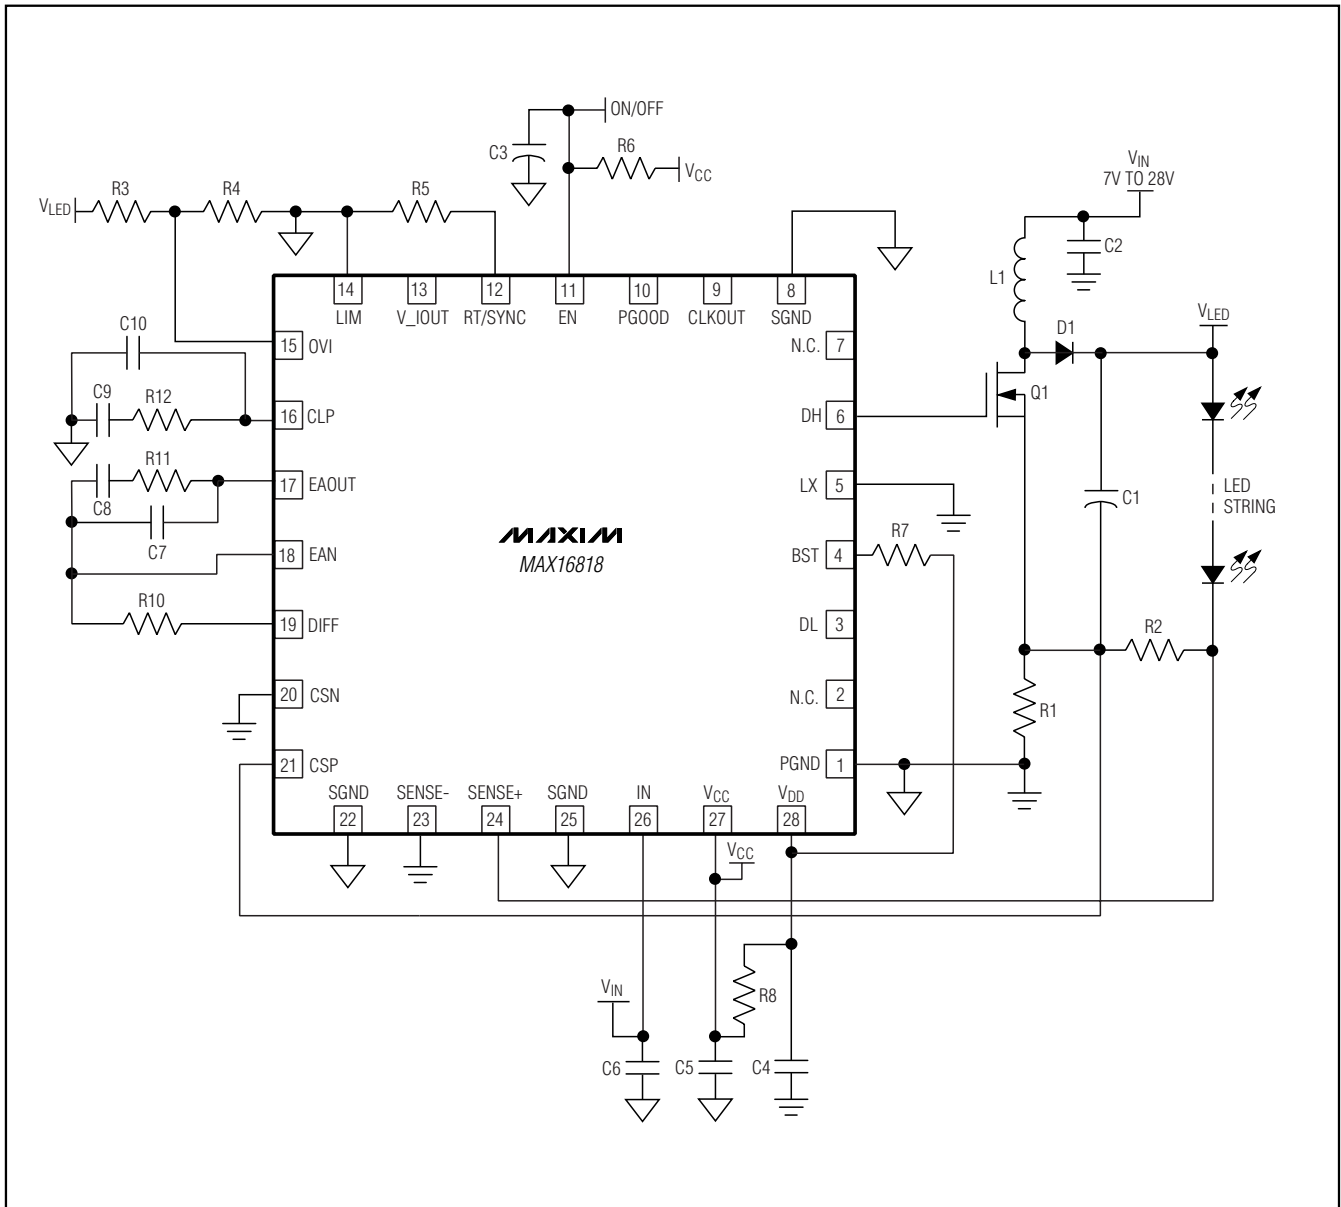
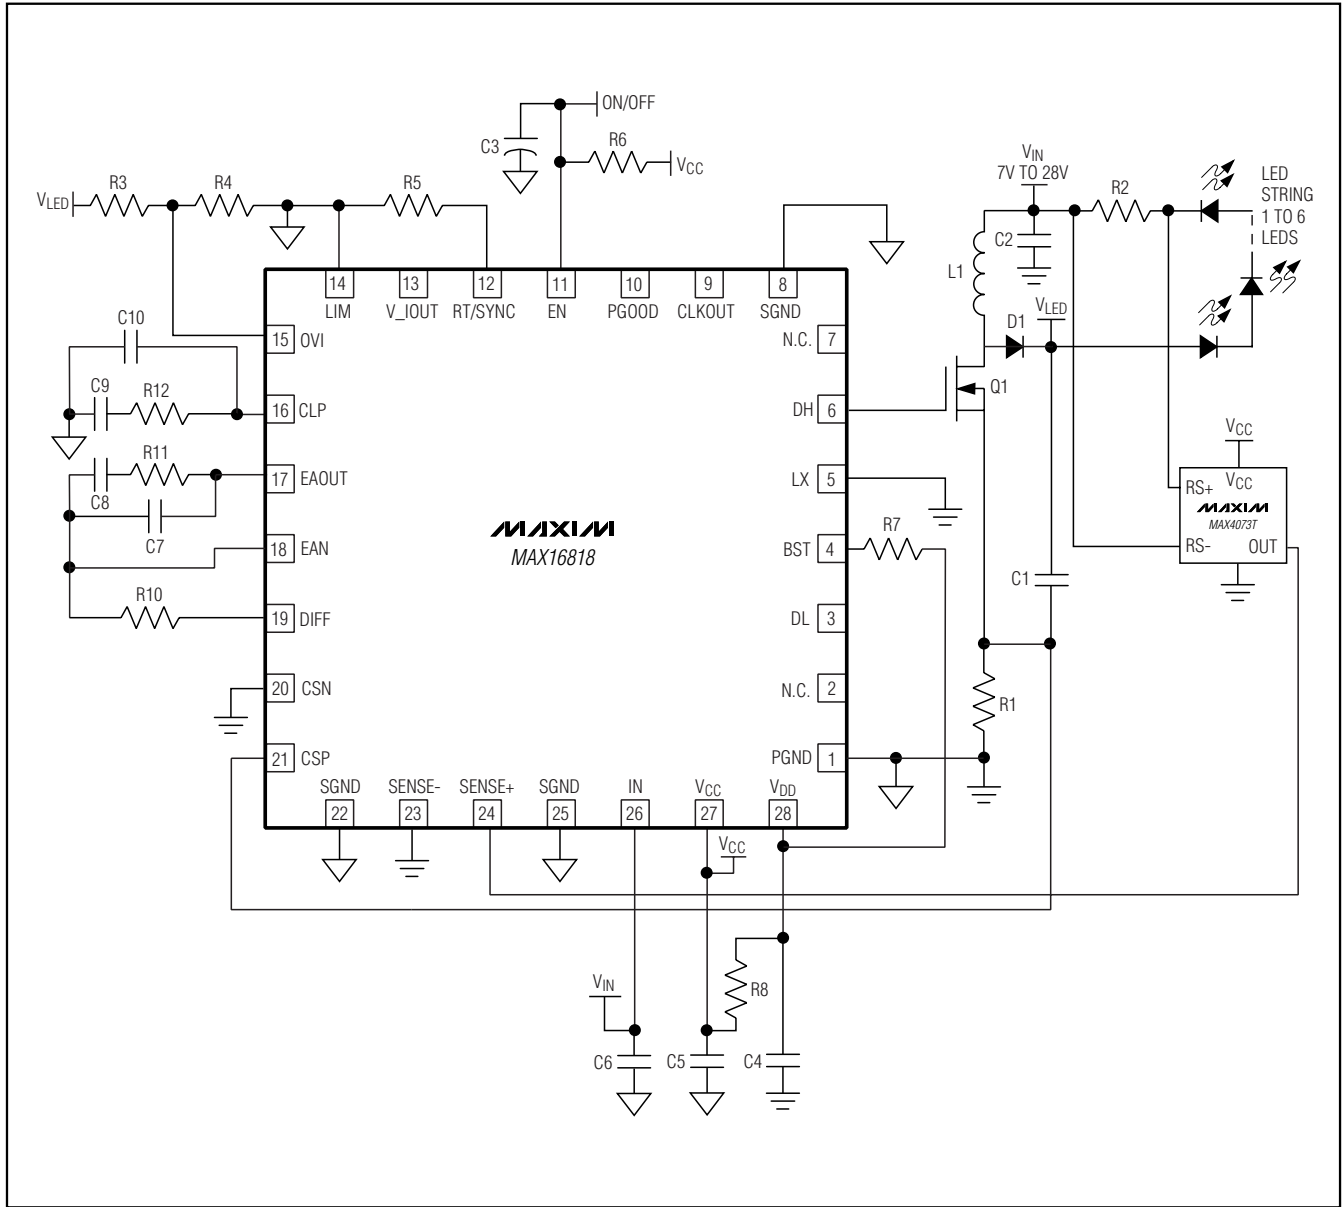

Figure 1. Typical Application Circuit for a Boost LED Driver (Nonsynchronous)
Figure 2. Typical Application Circuit for an Input-Referred Buck-Boost LED Driver (Input: 7V to 28V, Output: 1 to 6 LEDs in Series)
The high-side (DH) and low-side (DL) drivers drive the gates of external n-channel MOSFETs (Figures 1–5). The drivers' 4A peak sink- and source-current capability provides ample drive for the fast rise and fall times of the switching MOSFETs. Faster rise and fall times result in reduced cross-conduction losses. Due to physical realities, extremely low gate charges and  $R_{DS(ON)}$  resistance of MOSFETs are typically exclusive of each other. MOSFETs with very low  $R_{DS(ON)}$  will have a higher gate charge and vice versa. Choosing the high-side MOSFET (Q1) becomes a trade-off between these two attributes. Applications where the input voltage is much higher than the output voltage result in a low duty cycle where conduction losses are less important than switching losses. In this case, choose a MOSFET with very low gate charge and a moderate  $R_{DS(ON)}$ . Conversely, for applications where the output voltage is near the input voltage resulting in duty cycles much greater than 50%, the  $R_{DS(ON)}$  losses become at least equal, or even more important than the switching losses. In this case, choose a MOSFET with very low  $R_{DS(ON)}$  and moderate gate charge. Finally, for the applications where the duty cycle is near 50%, the two loss components are nearly equal, and a balanced MOSFET with moderate gate charge and  $R_{DS(ON)}$  work best.
This section provides some detail regarding the application circuits in the *Simplified Diagram* and Figures 1–5. The discussion includes some description of the topology as well as basic attributes.
In Figure 1, the external components configure the MAX16818 as a boost converter. The circuit applies the input voltage to the inductor during the on-time, and then during the off-time the inductor, which is in series with the input capacitor, charges the output capacitor. Because of the series connection between the input voltage and the inductor, the output voltage can never go lower than the input voltage. The design is nonsynchronous, and since the current-sense resistor connects to ground, the power supply can go to any output voltage (above the input) as long as the components are rated appropriately. R2 again provides the sense voltage the MAX16818 uses to regulate the LED current.
The circuit in Figure 2 shows a step-up/step-down regulator. It is similar to the boost converter in Figure 1 in that the inductor is connected to the input and the MOSFET is essentially connected to ground. However, rather than going from the output to ground, the LEDs
span from the output to the input. This effectively removes the boost-only restriction of the regulator in Figure 1, allowing the voltage across the LEDs to be greater than or less than the input voltage. LED current sensing is not ground-referenced, so a high-side current-sense amplifier is used to measure current.